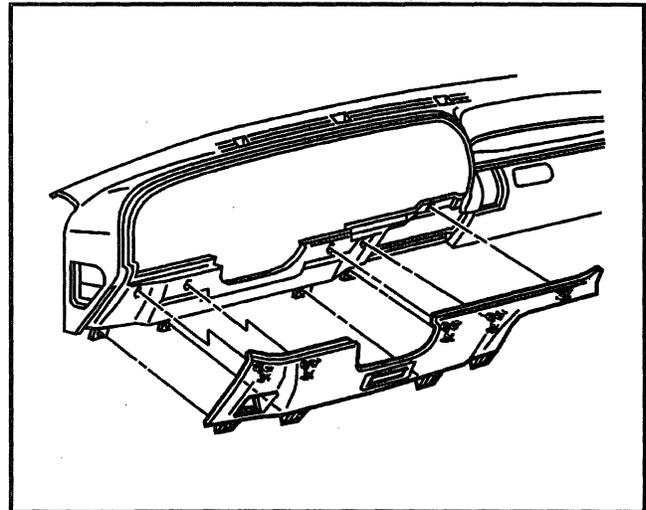

Figure 15—Knee Bolster
The oil pressure gauge is an electrical gauge which measures current from an oil pressure sender in the engine block. The oil pressure sender is located at the rear of the engine block on the drivers side for the 4.3, 5.0, 5.7, and the 6.5 liter diesel. It is located at the front of the engine block on the 7.4 liter engine. Refer to Figures 15 through 18. For diagnostic information, refer to SECTION 8A-81.
9. Four lower bolster screws (Figure 15).